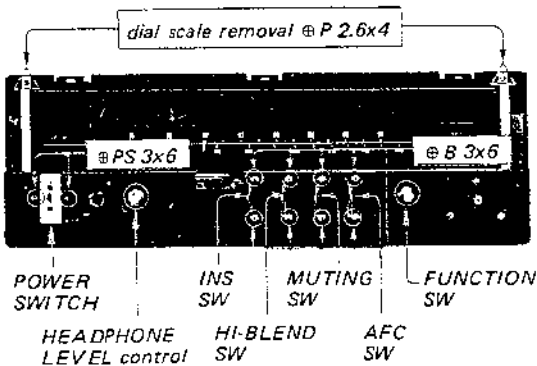

Fig. 2-14. Dial scale, switch and control replacement
2. Remove the screws securing the dial scale holder at both sides of the front subchassis as shown in Fig. 2-14. This frees the dial scale.
1. Remove the hex nuts or the screws securing the defective components to the front subchassis as shown in Fig. 2-14.